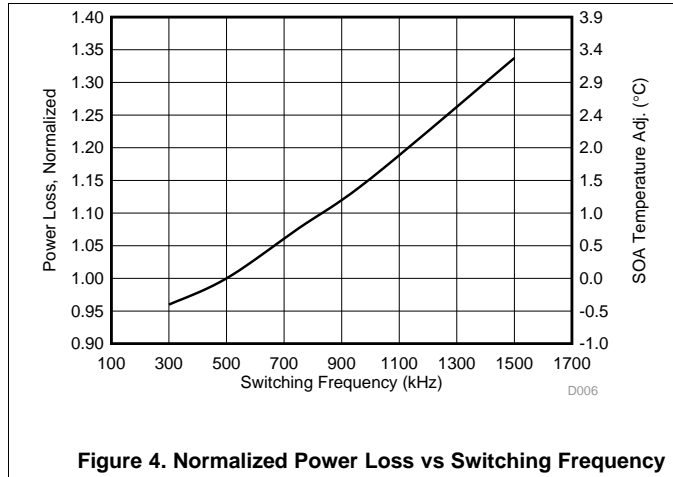

Figure 4. Normalized Power Loss vs Switching Frequency
- Normalized power loss for switching frequency ≈ 1.08 (Figure 4)
- SOA adjustment for switching frequency ≈ 0.75°C (Figure 4)